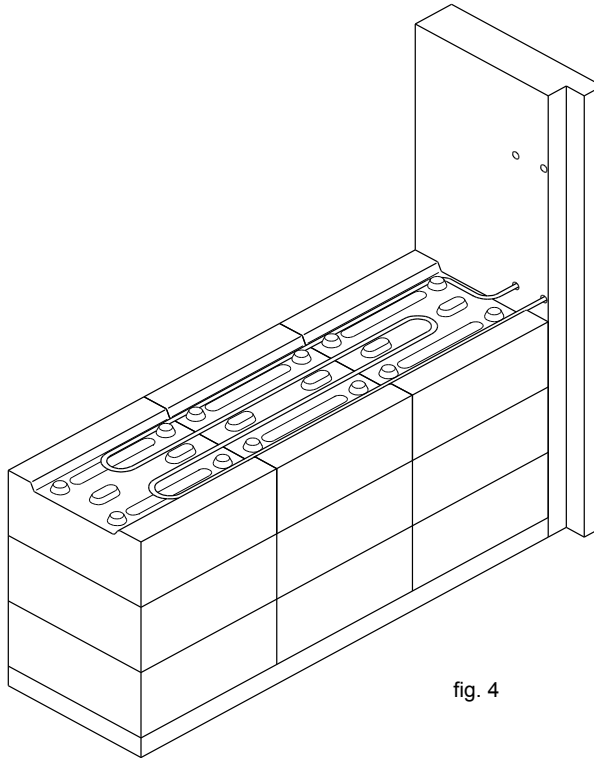

fig. 4
8.- Check that the heating element rests completely on the bricks without restricting a new row (Fig. 4).